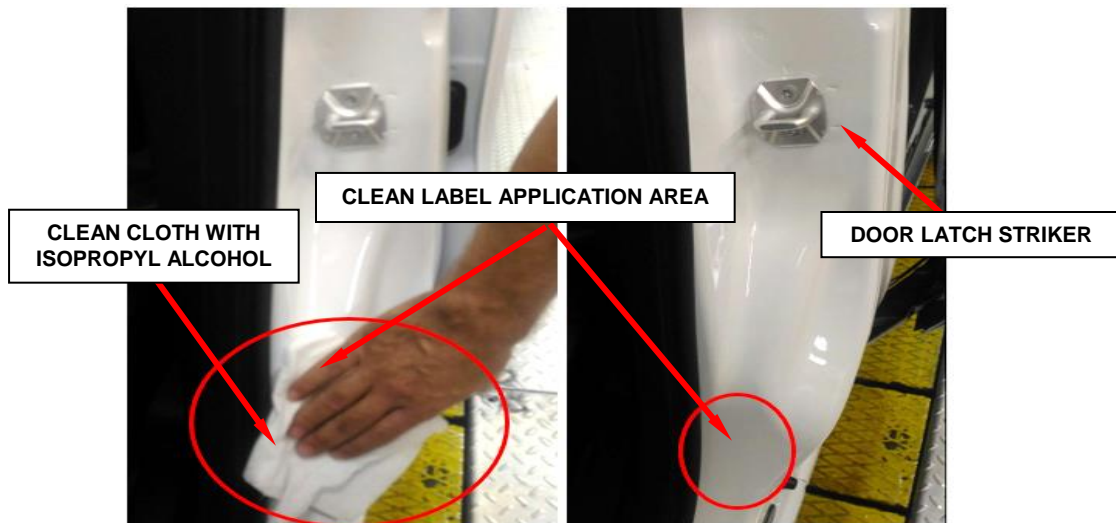

Figure 4 – Remove Tire Placard Label Adhesive Residue
- Using isopropyl alcohol and a clean cloth, remove all adhesive residue from the door jamb surface where the tire placard label was applied. Allow the alcohol to evaporate before applying the new tire placard label (Figure 4).